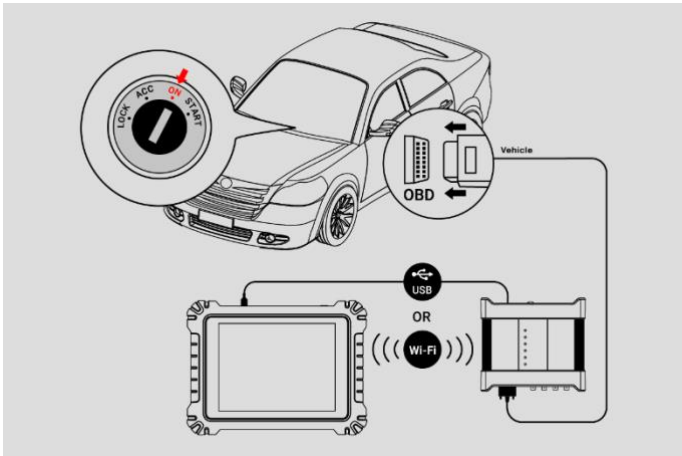

Figure 7-107 Connection Diagram
1. Please refer to Figure 7-107 Connection Diagram to complete the connection. Place the ignition in the key on position.